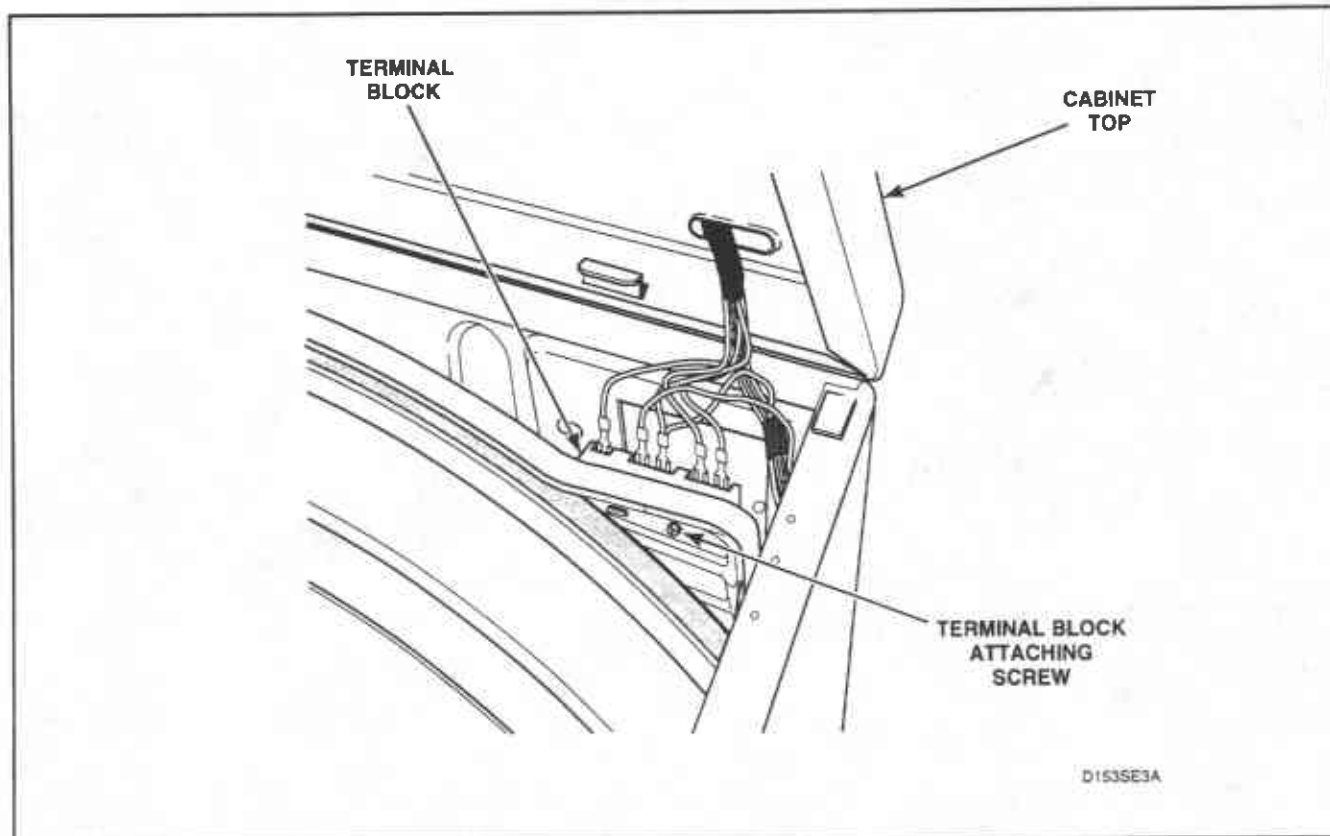

Figure 45
- (7) Remove all wires from terminal block. (Refer to appropriate wiring diagram when rewiring terminal block).
- (8) Remove screw holding terminal block to rear bulkhead, *Figure 45*.